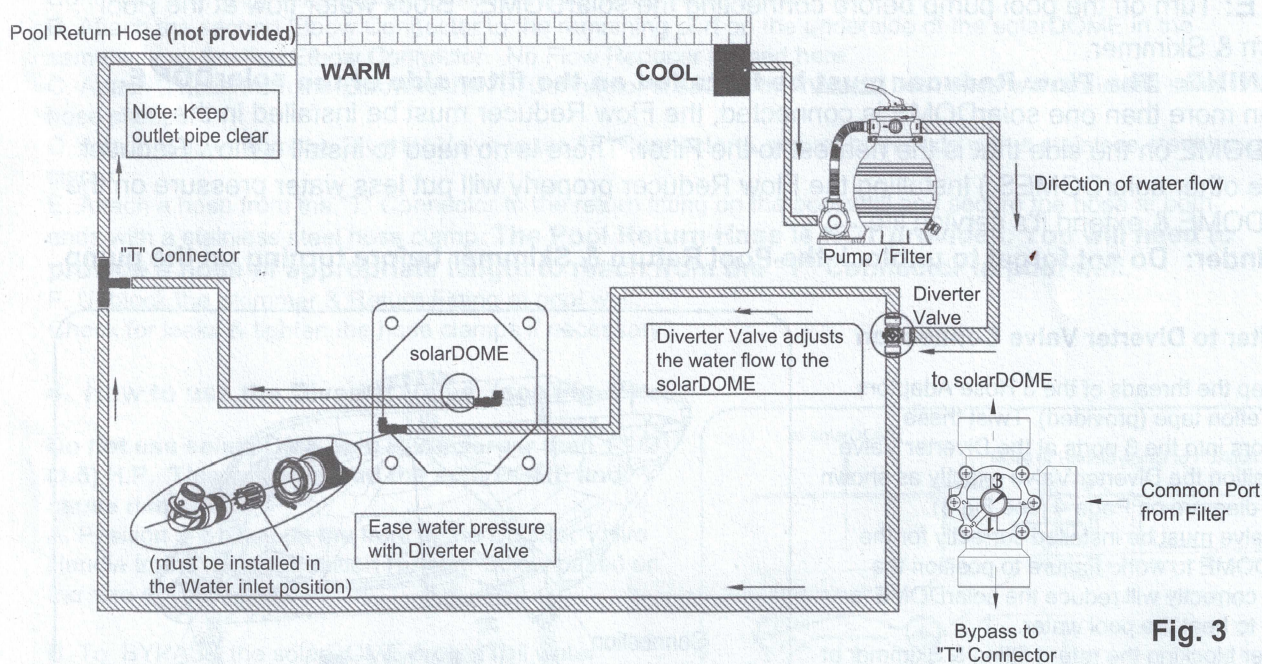

Fig. 3
NOTE: Pool Return Hose not provided (see Fig. 3 & 4)
NOTE: The connections in Fig. 3 & 4 show the water flowing into the solarDOME through the side connector and out through the center connector located on the underside of the solarDOME. This diagram is for reference only as the flow may be reversed if you choose. The **FLOW REDUCER must** put into the elbow closest to the filter.
B. Position the Diverter Valve exactly as shown in the diagram on Page 4 (see Fig 3).
F. Connect a hose from the Elbow to the Diverter Valve (see Fig. 3 & 4).
- A. The "T" Connector must be positioned exactly as shown in Figures 3 & 4. Failure to position the "T" Connector correctly will reduce the effectiveness of the solarDOME.